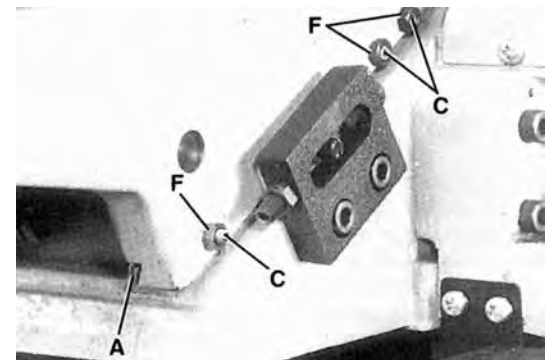
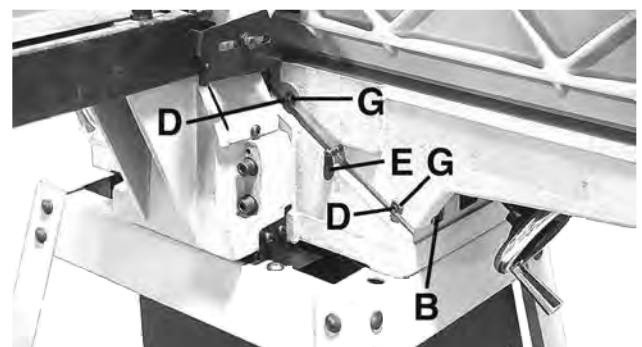

FIGURE 37
FIGURE 38
"Gibs" are provided to take up all play between the mating dovetail ways of the base and the infeed and outfeed tables. The "gib" for the infeed table is shown at (A) Fig. 37, and the "gib" for the outfeed table is shown at (B) Fig. 38. Proper "gib" adjustment is necessary for the proper functioning of the jointer. The "gibs" were adjusted at the factory and should require no further adjustment. If, however, it becomes necessary to adjust the "gibs" proceed as follows:
1. To adjust the infeed table or outfeed table "gibs", loosen three lock nuts (F) Fig. 37, for the infeed table or two lock nuts (G) Fig. 38, for the outfeed table. For the infeed table, make sure the table locking lever is loose. For the outfeed table, make sure the table locking screw (E) Fig. 38, is loose.
2. Tighten or loosen three gib adjustment screws (C) Fig. 37, as necessary for the infeed table or two gib adjustment screws (D) Fig. 38, as necessary for the outfeed table; starting with the lower screw first and as you proceed to the top screw, gently raise the outboard edge of the table that is being adjusted. This will offset any tendency for the table casting to "droop or sag" and permit the gib to be adjusted to a secure fit. After the gibs have been adjusted, tighten the lock nuts (F) Fig. 37, (G) Fig. 38, table locking screw (E) Fig. 38, and infeed table locking lever.